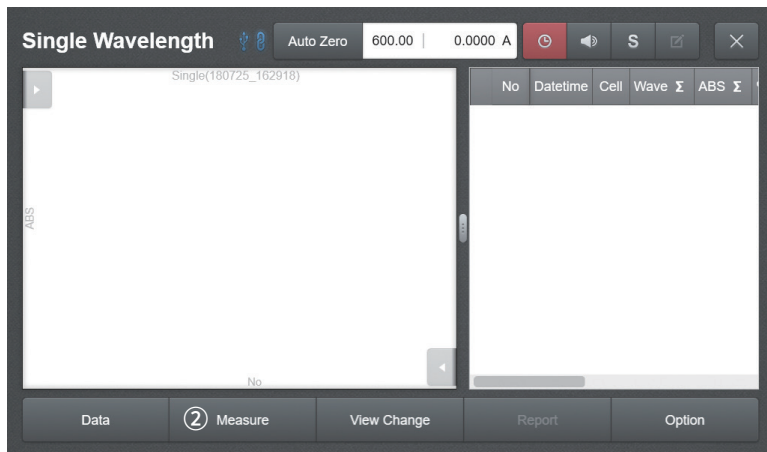

Fig. 2.14
4. [Fig. 2.14] Insert the sample into the pertinent cell holder and press ② **Measure** to take measurements.
5. [Fig. 2.14] If there a sample to add, insert a sample to measure into the pertinent cell holder and press ② **Measure** to take measurements.
7. Click [Fig. 2.14] **Report** to check or print the measurement data in report form.